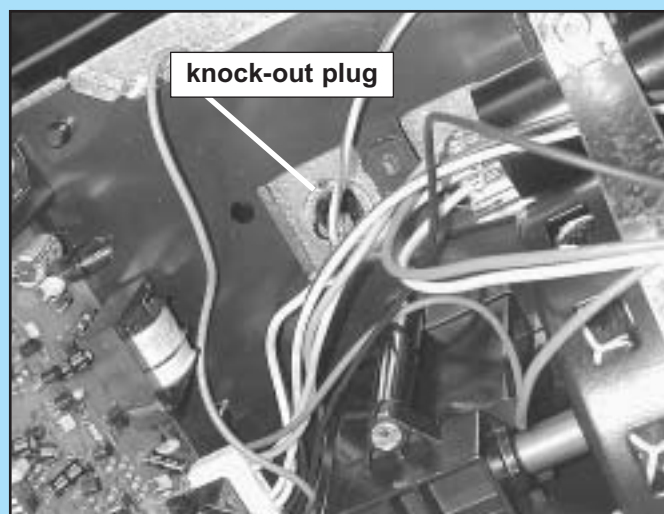

FIG. 6-2 Knock-out plug.
- Remove 7/8" knockout plug (**Fig. 6-2**).